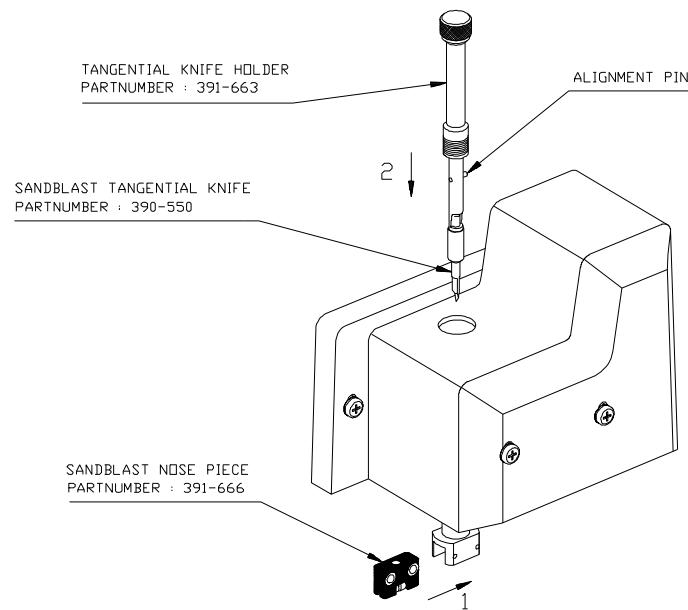

FIGURE 1-10 :
2. Insert the **black** nose piece as shown in Figure 1-10 until it snaps into the nose piece holder.
3. Gently insert the knife into the tool shaft as shown in Figure 1-10. Hold the nose piece in place with one hand, with the other hand turn the knife holder anticlockwise until the alignment pin fits into the small notch of the tool shaft. Then turn the knife holder clockwise until it gets grip in the tool shaft.